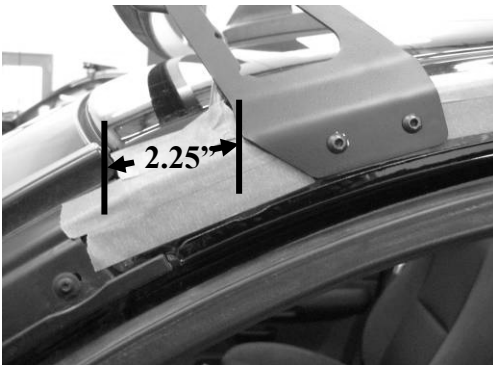

Figure 1
7. Place tape where bracket will be mounted and mark drill holes with a marker. See **Figure 1** for bracket mounting location.